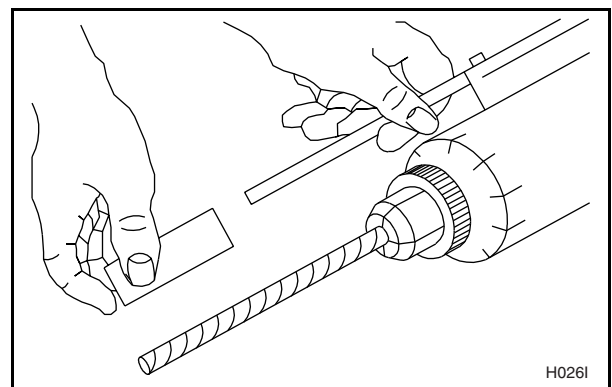

Figure 23
3. Adjust the drill depth gauge to match the length of the J-bolt, minus 1-1/2 inches (38 mm). See Figure 23.